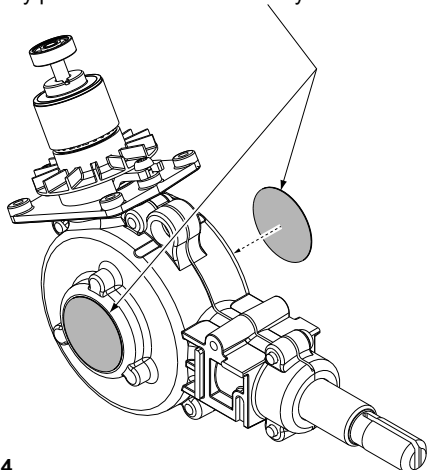

FIG. 4
11. Remove left and right alignment plug (s) and apply aluminum tape disc from kits to each side of gearcase (fig.4). **SAVE PLUGS** in case rotor needs servicing or replacing.